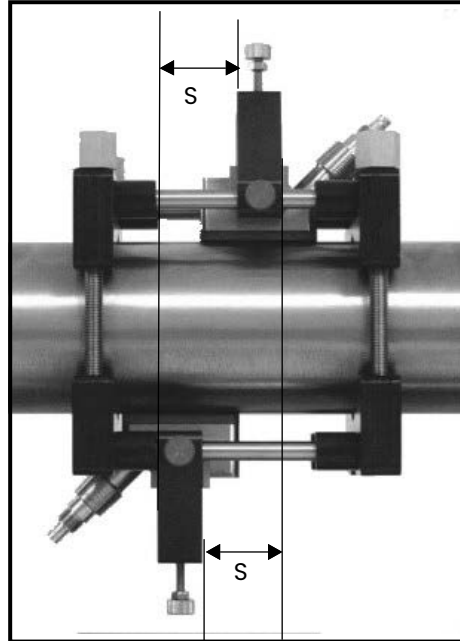

Figure 11: V4 Fixture, Top View
The overall spacing between yokes should be left edge to left edge, or right edge to right edge. *Figure 11* below shows typical positioning.
4. In a similar manner, install the second transducer as shown in *Figure 11* above.